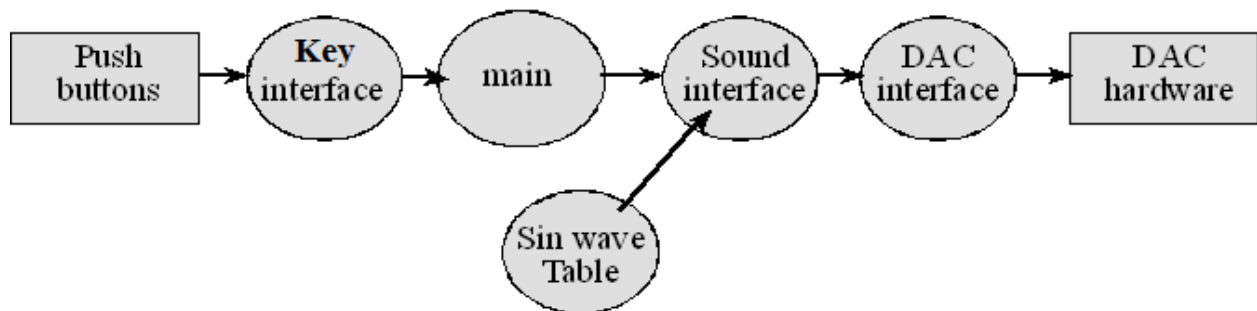

Figure 6.10. Data flows from the memory and the switches to the speaker.
Write a main program to implement the four-key piano. Make a heartbeat connected to an LED (use PortF) so you can see that your program is running. Document clearly the operation of the routines. Figure 6.10 shows a possible data flow graph of the music player. Debug the system first in the simulator then on the real TM4C123 with the TExaS oscilloscope. Take a screenshot of a scope trace (like Figure 6.8) to capture the waveform generated by your digital piano. When no buttons are pressed, the output will be quiet. When switch 1 is pressed, output a sine wave at one frequency. When switch 2 is pressed, output a sine wave at a second frequency. When switch 3 is pressed, output a sine wave at a third frequency. When switch 4 is pressed, output a sine wave at a fourth frequency. Only one button will be pressed at a time. The sound lasts until the button is released.
- b. If you organized the system different than Figure 6.10 and 6.11, then draw its data flow and call graphs